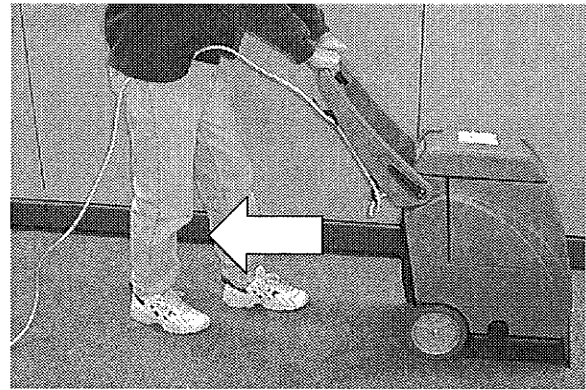

FIG. 6
2. To begin cleaning carpets, pull triggers and slowly pull machine backwards (Figure 6).